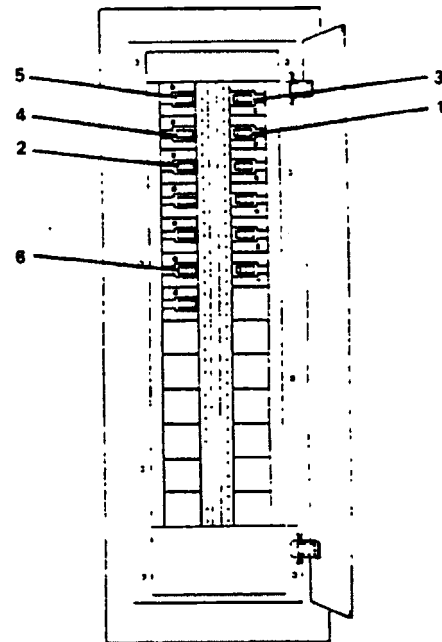

Figure 2-360. Auxiliary Machinery Space 2 Power Panel No. 5.
(c) Auxiliary machinery space 2 power panel no. 5 (Figure 2-360). Set following circuit breakers to OFF position:
- (c) Auxiliary machinery space 2 power panel no. 5 (Figure 2-360). Set the following circuit breakers to OFF position:
- 1 #1 POT WTR PUMP (3).
- 2 #2 POT WTR PUMP (4).
(6) Secure piping system.